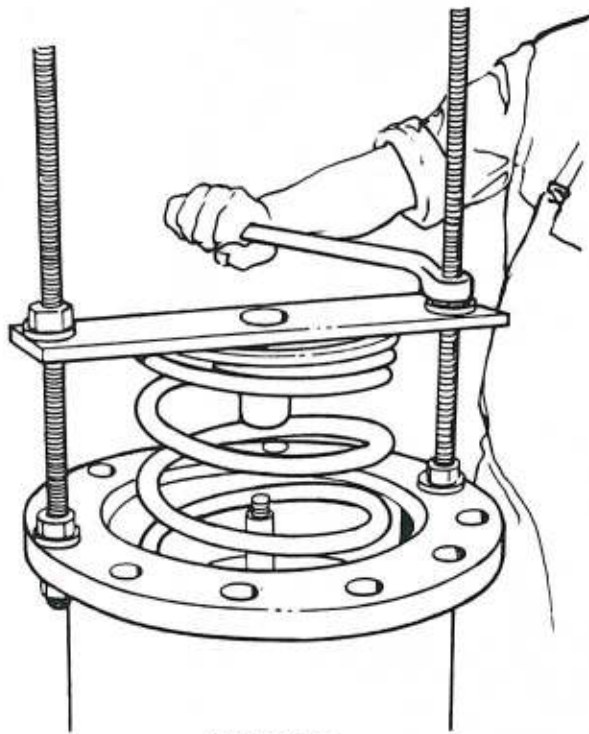

FIGURE 11
- f. Gradually loosen top rod nuts to allow spring to relax (Fig. 11).